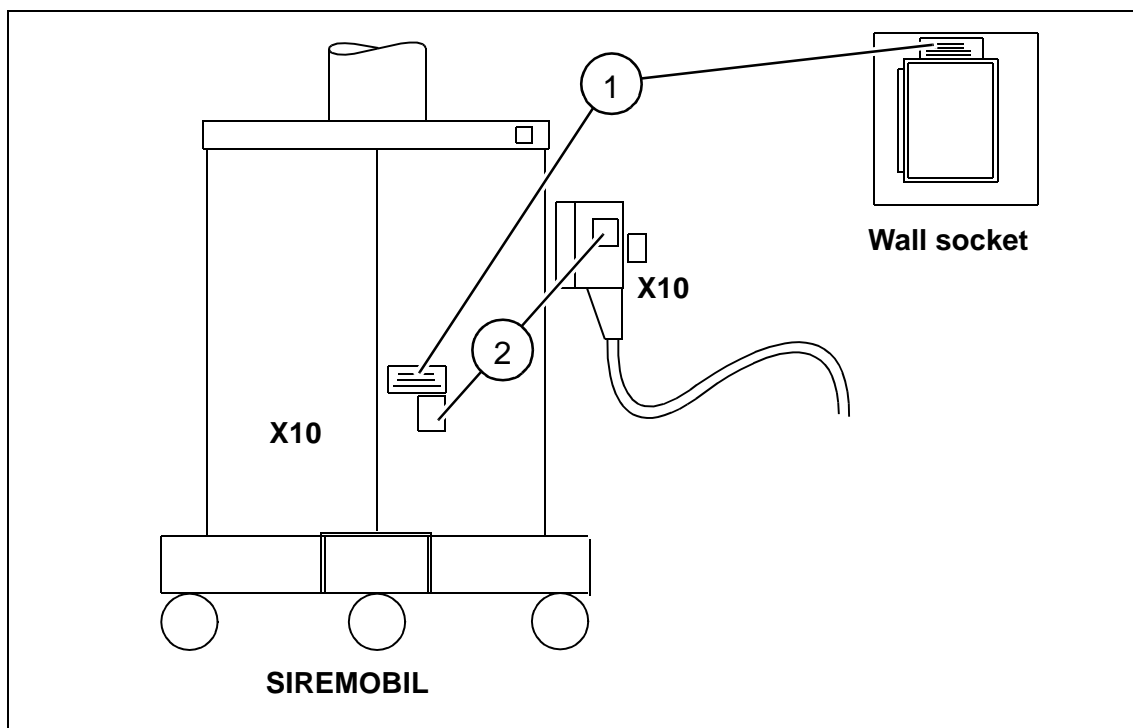

Fig. 2
- Attach one label to each wall socket, with instructions for unlocking plug X10 in the language normally used at the installation site (1/ Fig. 2).
- Attach one label to the SIREMOBIL covering, above plug connection X10, with instructions for unlocking X10 in the language normally used at the installation site (1/ Fig. 2).
- Attach a label to the SIREMOBIL next to plug X10, with the designation "1" (2/ Fig. 2).
- Also attach a label with the designation "1" to the wall socket - SIREMOBIL connection cable, part no. 30 98 014 (2/ Fig. 2).
- Attach a label to the SIREMOBIL next to plug X10, with the designation "2" (2/ Fig. 2). Also attach a label with the designation "2" to the wall socket - SIREMOBIL connecting cable, part no. 30 98 022 (2/ Fig. 2).